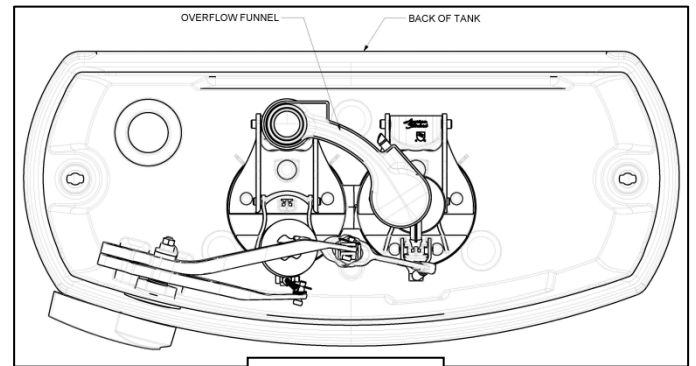

FIGURE 4
- Install the valve, orient valve assembly so overflow funnel is positioned towards the back of the tank (see **FIGURE 4**)